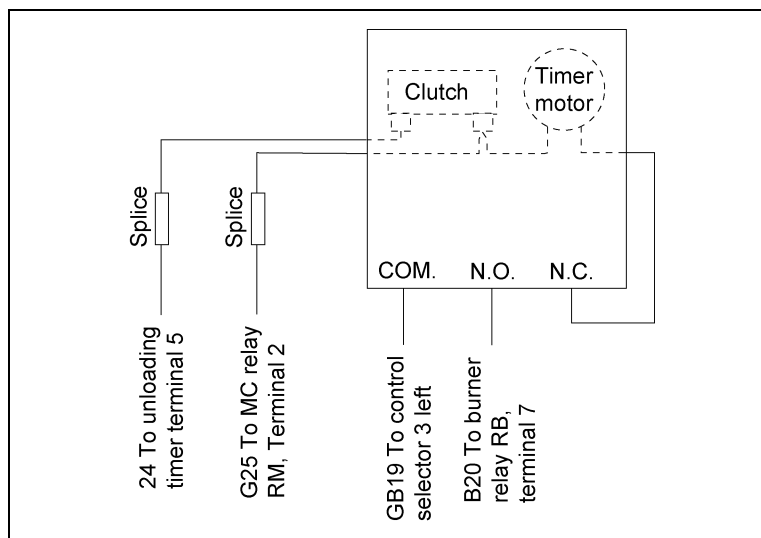

Figure 2
3. Refer to illustration for proper wire connections and position the new timer base to allow all (or most) of the wires to reach their proper terminal destinations. The kit contains additional wire and wire connectors which may be used to lengthen some wires, if required. (See Figure 2.)